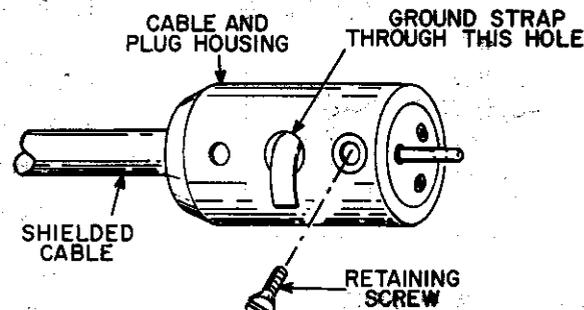

FIGURE 16C
- (✓) Remove ¾ inch of insulation from the inner conductor. Insert the pin of the plug over the inner conductor and solder. Slide the cable and plug housing down over the plug. Pull the ground strap through the large hole in the side of the housing. Rotate the plug until the small hole in the side of the plug is in line with the hole in the housing. Tighten a small screw into this hole. See Figure 16C.